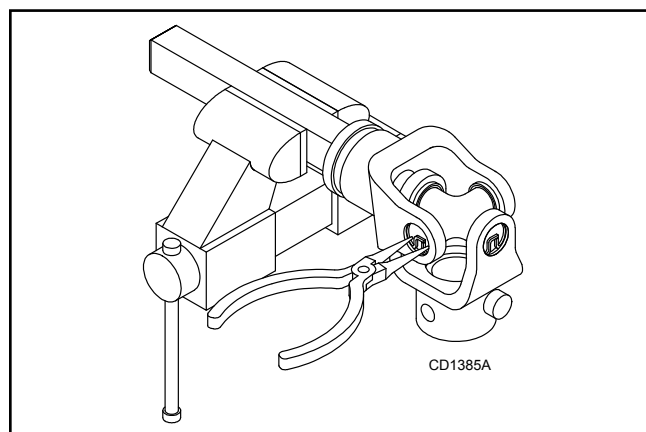

Figure 31. Remove Snap Ring
1. Remove external snap rings from yokes in four locations as shown in Figure 31.